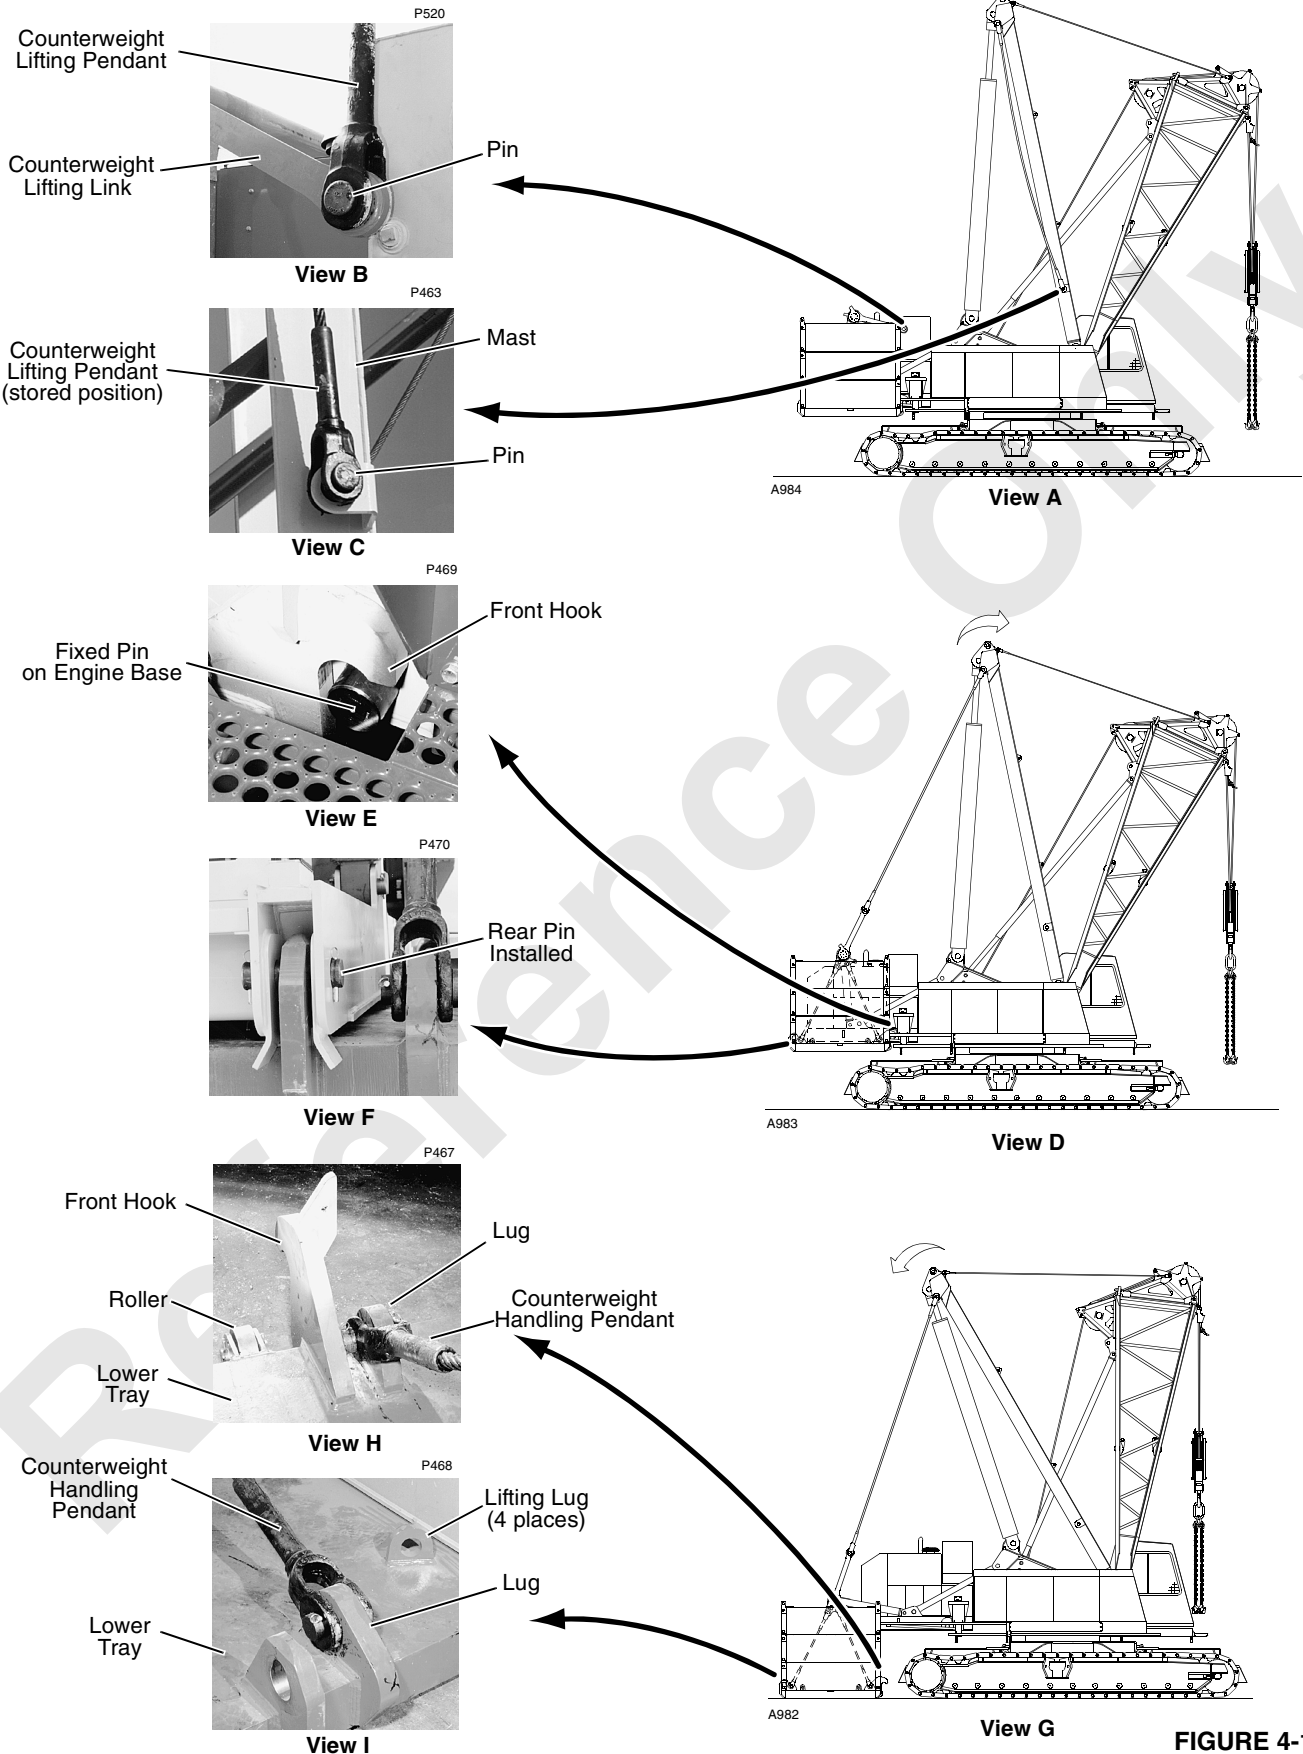

FIGURE 4-16
- Crane rigged as shown in Figure 4-16.
See Figure 4-16 for following procedure.
- Remove Series-2 counterweight in exact sequence given in this procedure and shown in Figure 4-16, View G.